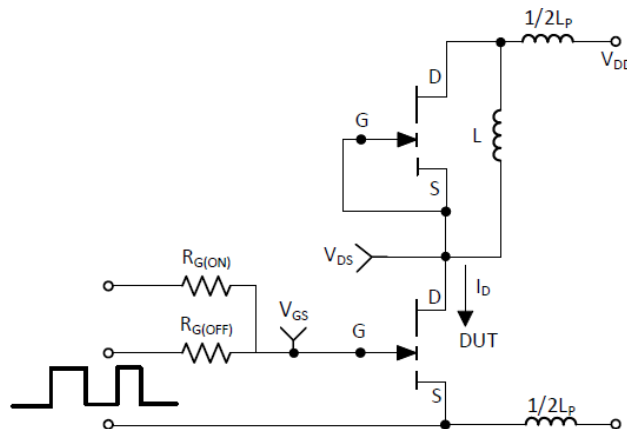

Figure 18: Switching Loss Test Circuit
(7) See Figure 18 for switching loss test circuit